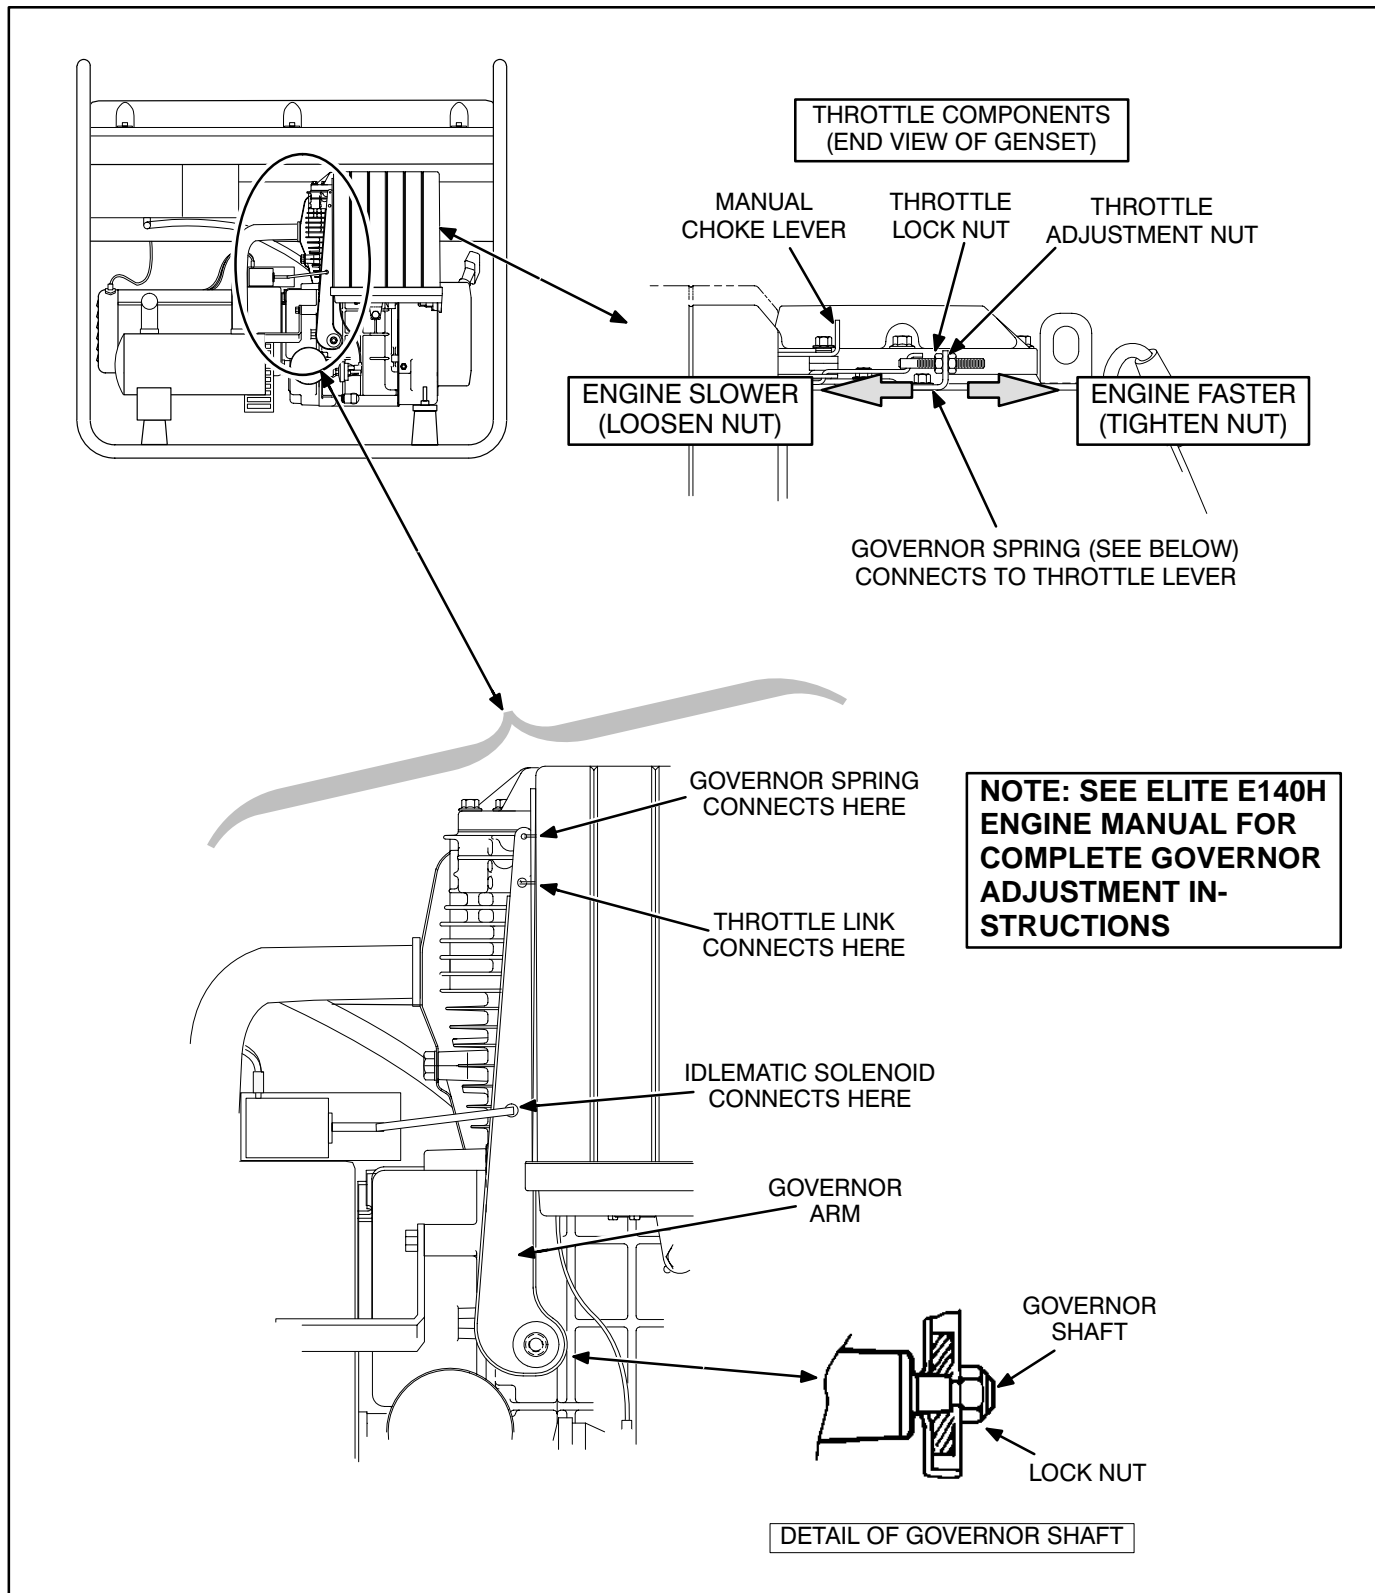

FIGURE 6-10. GOVERNOR/THROTTLE ADJUSTMENTS, ELITE E140H ENGINE
4. Start the engine. Make sure the speed control lever is in the high speed position or that the Idlematic is Off. Operate the generator set with no load until it is warm. See Figure 6-10.